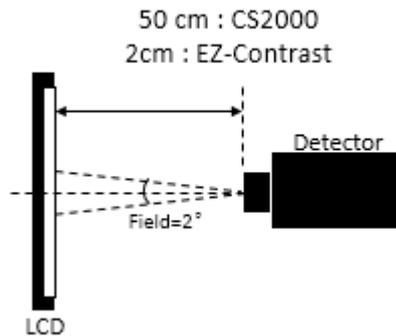

Fig 4.1 Measurement equipment.
- (1) Each chromaticity coordinates (x, y) are measured in CIE1931 color space when full-screen displaying (Red, Green, Blue, White) and light source is defined by C-light, Measurements shall be made at the center of the panel, and setup of measurement is shown in Fig 4.1.
- (2) The color gamut is defined as the fraction in percent of the area of the triangle bounded by R, G, B coordinates and the area is defined by NTSC 1931 color standard in the CIE color space. Chromaticity coordinates are measured by CS2000 and the standard setup of measurement is shown in Fig 4.1.
- (3) Definition of Transmittance (T%):
(6) Definition of Viewing angle:
As Note (4) the static contrast ratio definition, the viewing angles are defined at the angle that the contrast ratio is larger than 10 at four directions relative to the perpendicular direction of the HKC's module (two vertical angles: up θ_{y+} and down θ_{y-} ; and two horizontal angles: right θ_{x+} and left θ_{x-}). The contrast ratio is measured by ELDIM EZ-Contrast and the standard setup of measurement is shown in Fig 4.1 & 4.4